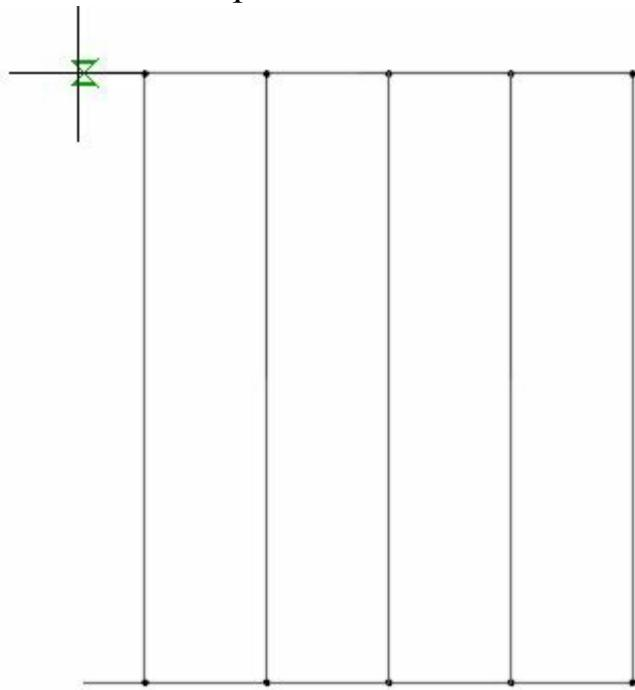

Figure-10. End to be selected
- Click on the top end of the ladder as shown in Figure-10.